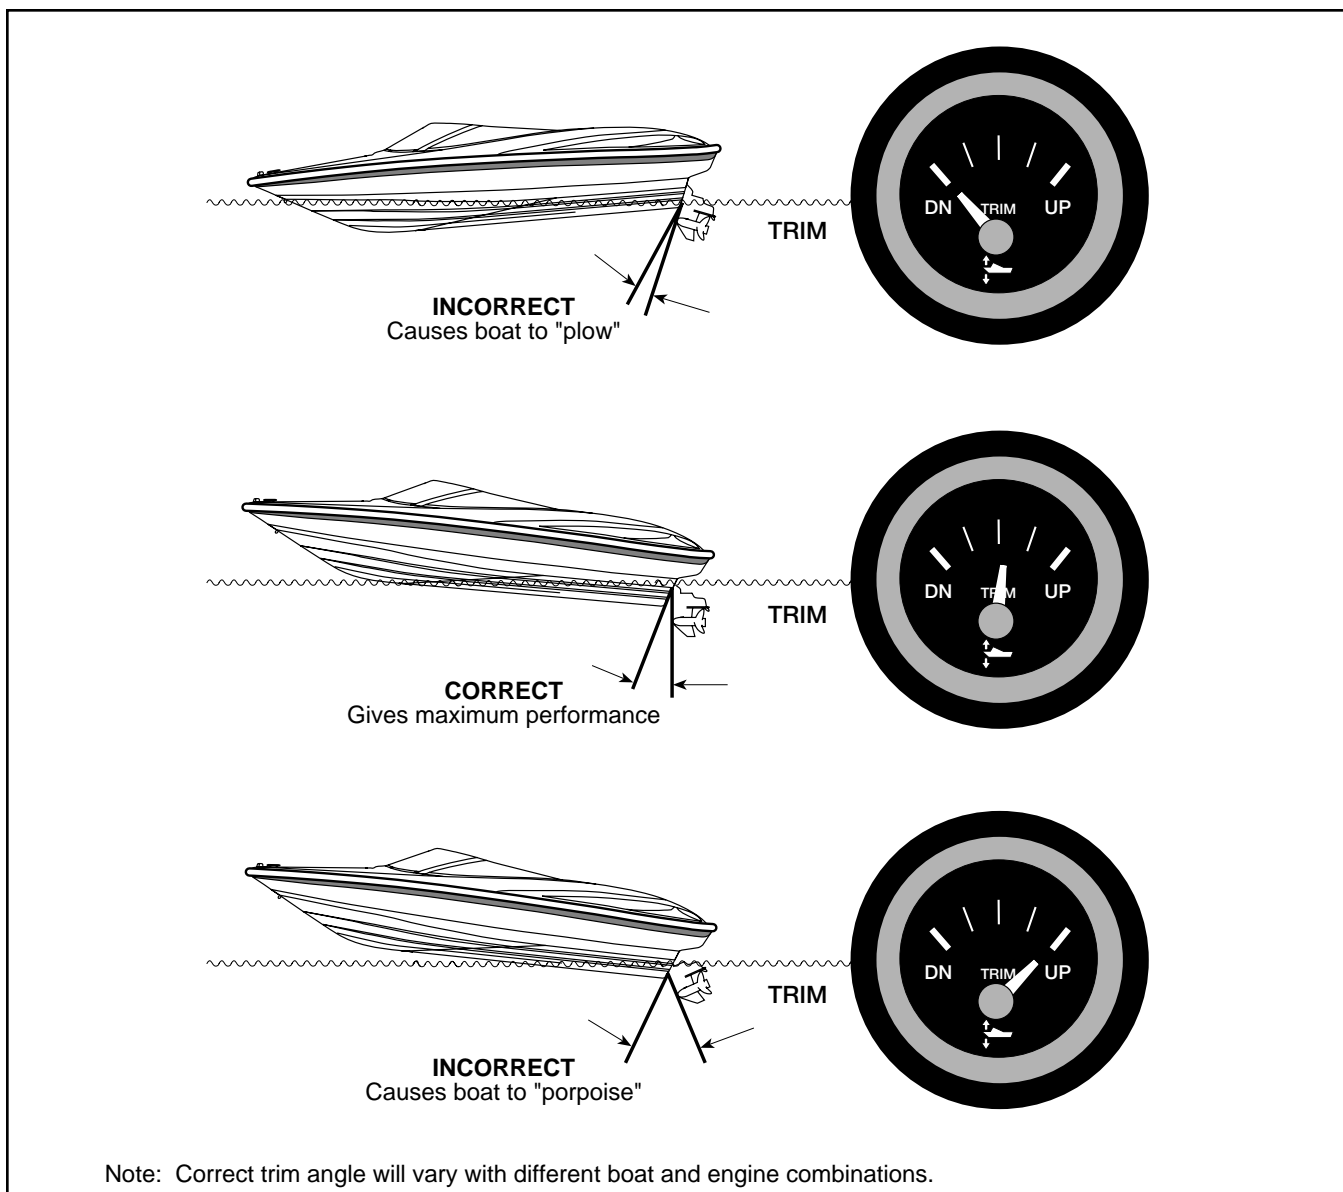

FIGURE 7.2 TRIMMING THE BOAT OUTDRIVE
3. In the case of low or heavy bow attitude, the boat tends to “plow” (**Figure 7.2**). The lower unit is trimmed too far under or forward. Trim the unit UP (out) to correct this situation.
4. If the bow is too high, the boat tends to “porpoise” (**Figure 7.2**). The drive unit is trimmed up or out too far. Trim DN (in) to correct.